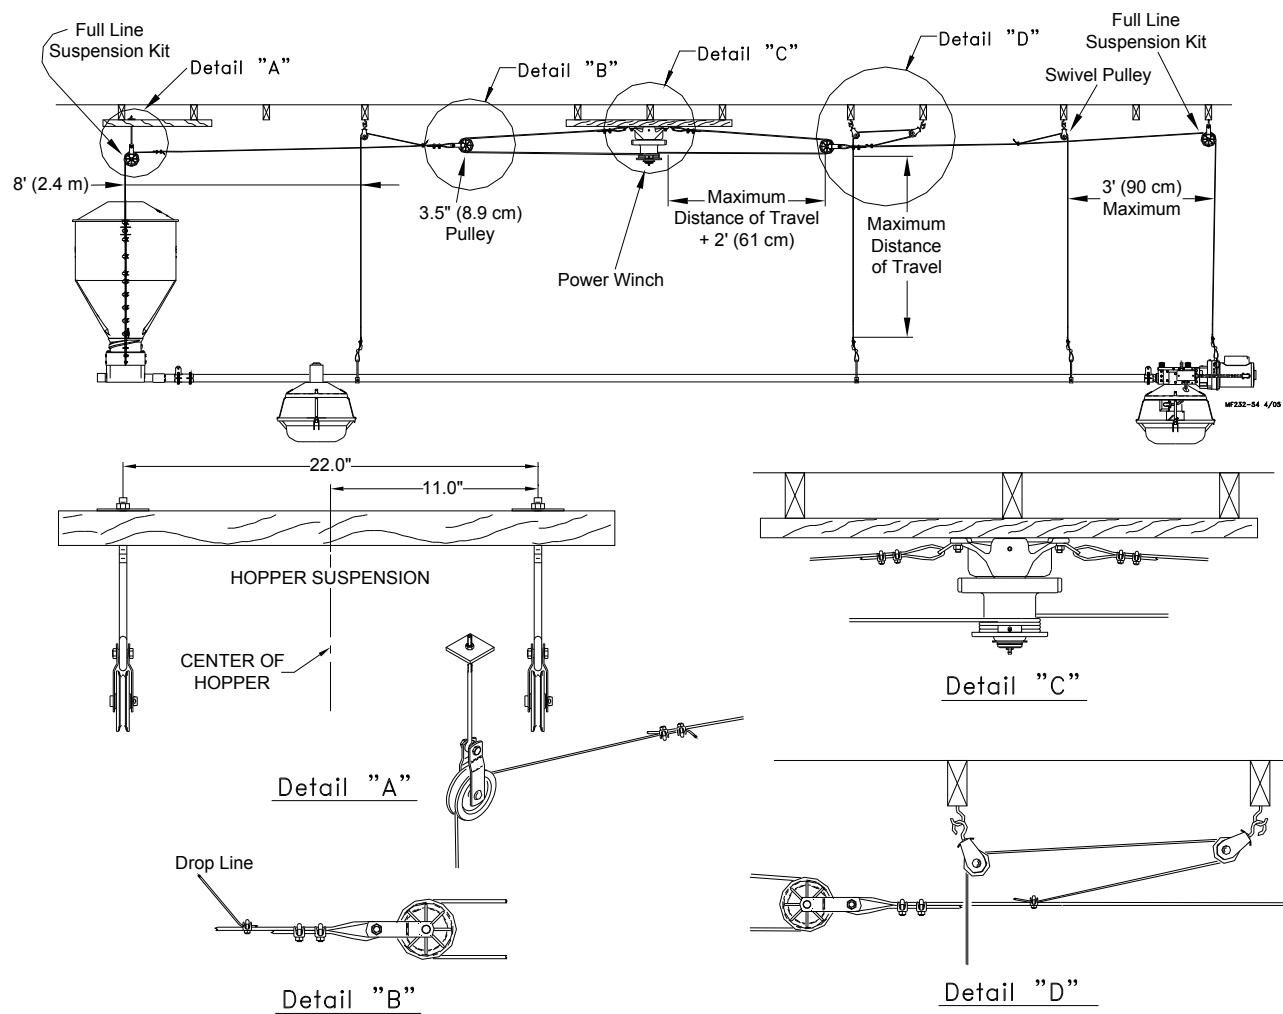

Figure 3. For Systems over 350' (107 m)
The type of installation required depends on feeder line length. **Figure 3.** shows the suspension system for feeder line lengths to 350' (107 m). **Figure 3** shows the suspension system for feeder lines over 350' (107 m).
If the distance raised is greater than the distance between the drop spacings, offset the hooks 3" (75 mm) to each side of the line to prevent the cable clamps from catching the pulleys, see **figure 3**.
3. Cut the cable long enough to allow for installation to the feeder line and to the adjustment leveler. Sufficient cable is included to provide "throwbacks" on drops located beneath and near the winch. See **Figure 3 (on page 11)**, Detail D shows a "throwback" cable arrangement.